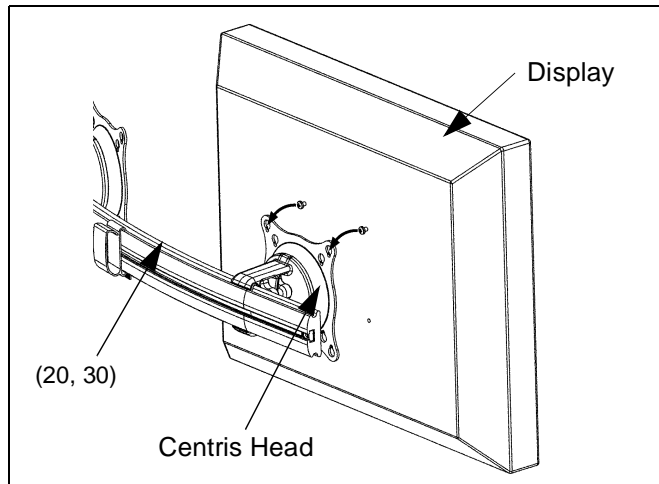
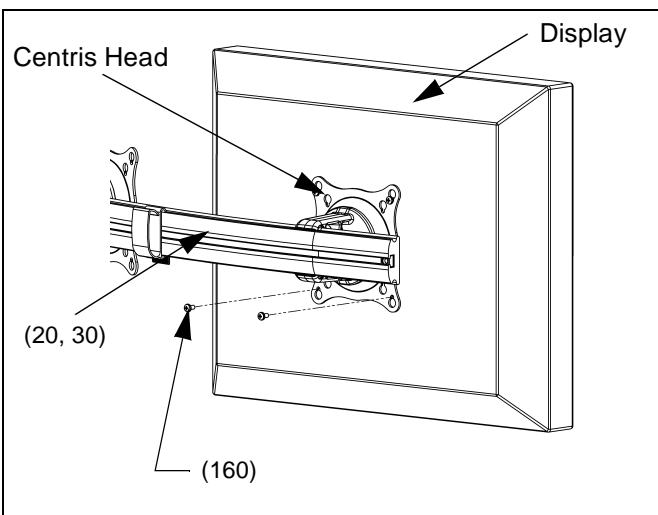

Figure 7: Hang Display
Figure 8: Secure Display to Centris Bracket
2. Hang display on Centris head. (see Figure 7)
3. Install bottom two M4 x 12mm Phillips pan head screws (160) through Centris head mounting holes and into lower mounting holes in display back.
4. Tighten ALL four M4 x 12mm Phillips pan head screws (160). (see Figure 8)